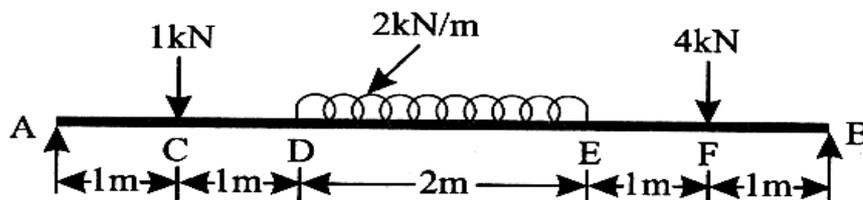

Figure 2
- b) Draw the shear force and bending moment diagrams for a beam loaded as shown in **Figure 2**. Clearly mark the maximum bending moment and determine its value.